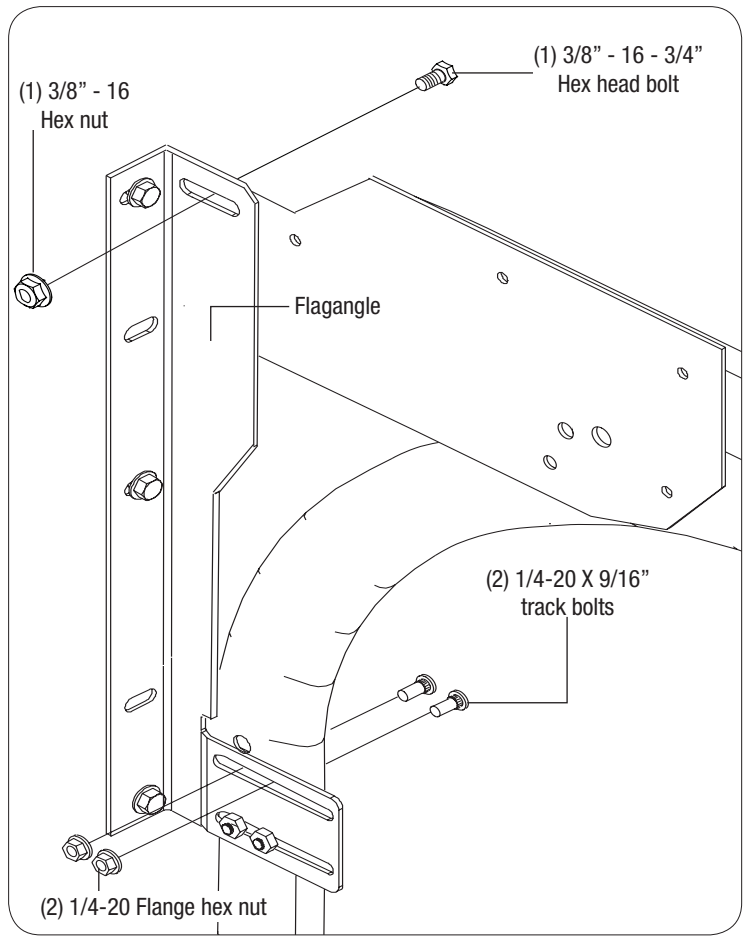

FIG. 5.1
Secure the horizontal track to the corresponding flagangle with (2) 1/4" - 20 x 9/16" track bolts and nuts. Level the horizontal track and secure the upper curve to the flagangle using (1) 3/8" - 16 x 3/4" hex head bolt and (1) 3/8" - 16" hex nut, as shown in **FIG. 5.1**.